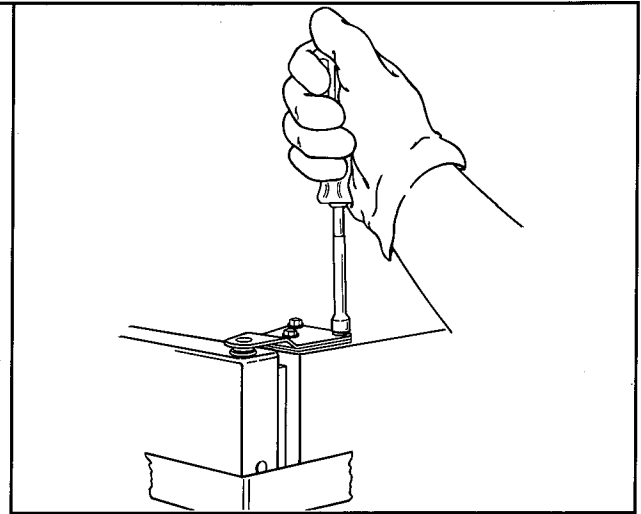

Figure 76
- f. Secure door by 'snugging' screws partially tight with 5/16" hex head screwdriver into top hinge. See Figure 76.